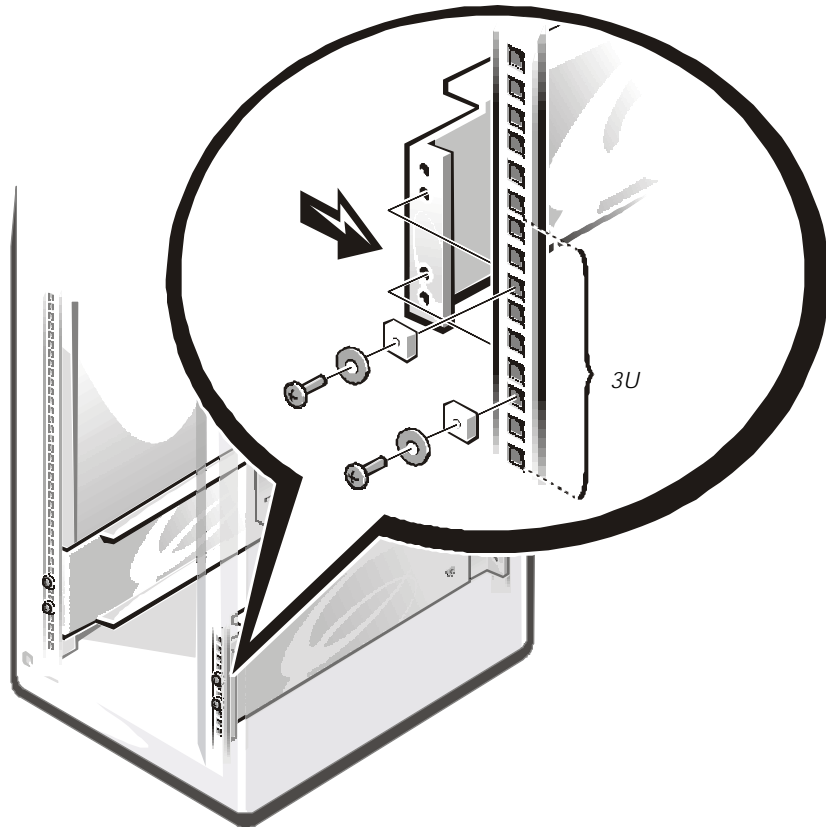

Figure 2. Attaching the Support Rail Assembly to the Front Vertical Rail of the Rack
3. Place the flange of the support rail assembly behind the right front vertical rail of the rack. Thread two 10-32 screws with a flat washer and a square alignment washer and push them through the front vertical rail of the rack and into the two center-most screw holes of the rail mounting flange (see Figure 2). Ensure that the rail is centered vertically within the 3U mounting area.